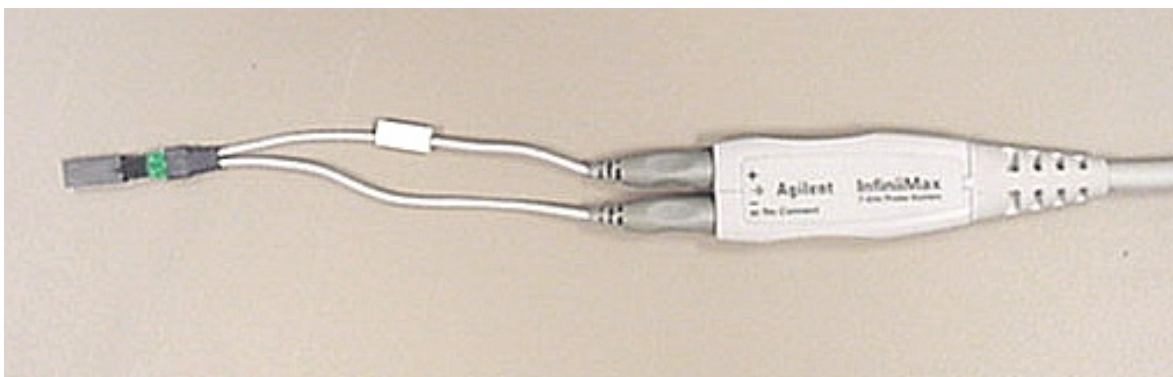

Figure 1. Differential Probe Setup
- b. Attach the header adapter to the socketed probe head, see Figure 1.